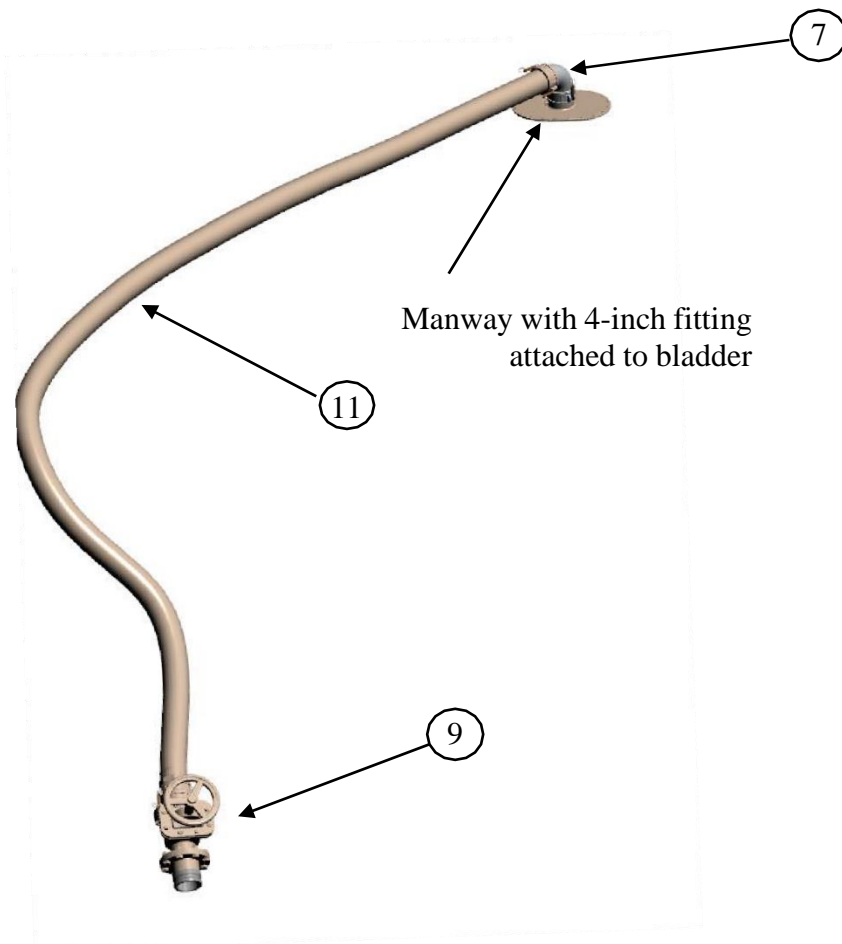

Figure 3. Connection on the outlet side of the bladder.
Now, from the top side of the bladder, connect the 4-inch male-female elbow (7) to the manway on the bladder that will be used as the outlet for the bladder. Next, connect the 4-inch I.D. non-collapsible filler/discharge hose assembly to the 4-inch (8) male-female elbow. Then, attach the 4-inch filler/discharge valve assembly with male-female coupling half ends (9) to the 4-inch filler/discharge hose assembly. Please see figure 3 below.